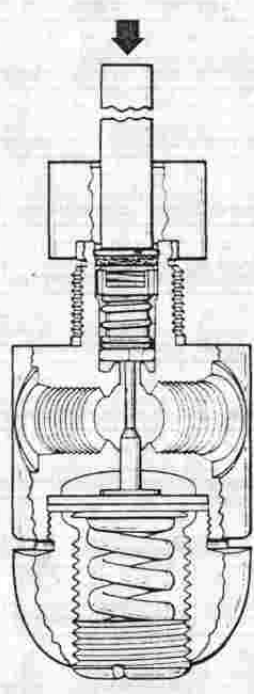

FIGURE 9
- 16. While holding the block guide, with the retaining ring centered over the hole and on top of the filter, apply sufficient pressure downward against the retaining ring, using a 1/2-inch flat-end wood dowel (see Figure 9), to force the retaining ring through the guide until it fully "locks" in its own groove in the inlet boss. At this point, the seat spring, spring block, spring, and sintered filter should be correctly positioned and "locked" in the boss. Check this positioning carefully before proceeding.